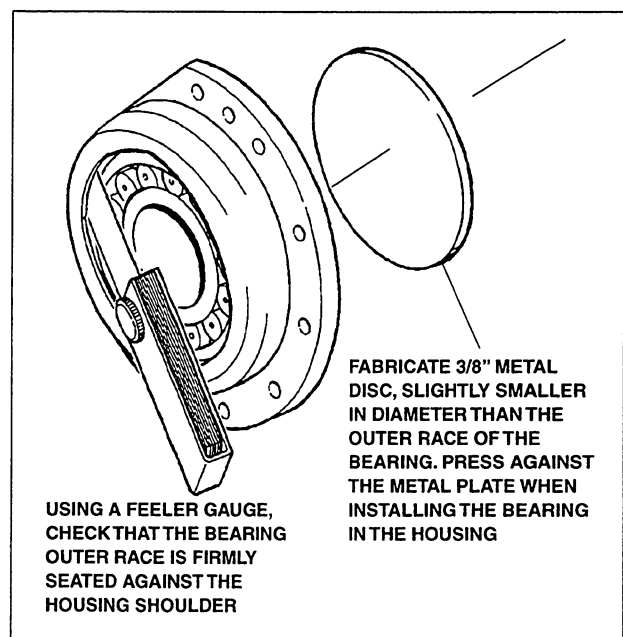

Figure 4-5. Installing Shaft Bearings into Bearing Housing
C. Lower bearing (9) into the bore of bearing housing (6). Be sure that the bearing enters the bearing housing from the bearing retainer (10) end.
D. Press the bearing into the housing using a circular disc of 3/8 inch metal slightly smaller than the bore in the bearing housing, but large enough to bear against the outer race of bearing (9). (Refer to Figure 4-5.) Apply mounting pressure **ONLY** against the outer bearing race. Continue to press the bearing into the bearing housing until it is fully seated against the shoulder of the bearing housing. Use a 0.001” feeler gauge to make certain the outer bearing cone is fully seated against the shoulder of the housing.